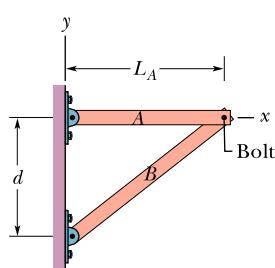

Figure 12.38 Problem 38.
- 38 M** In Fig. 12.38, uniform beams  $A$  and  $B$  are attached to a wall with hinges and loosely bolted together (there is no torque of one